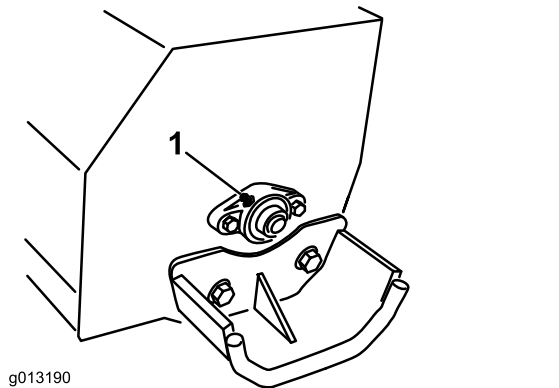

Figure 6
3. Clean the grease fitting with a rag (Figure 6).